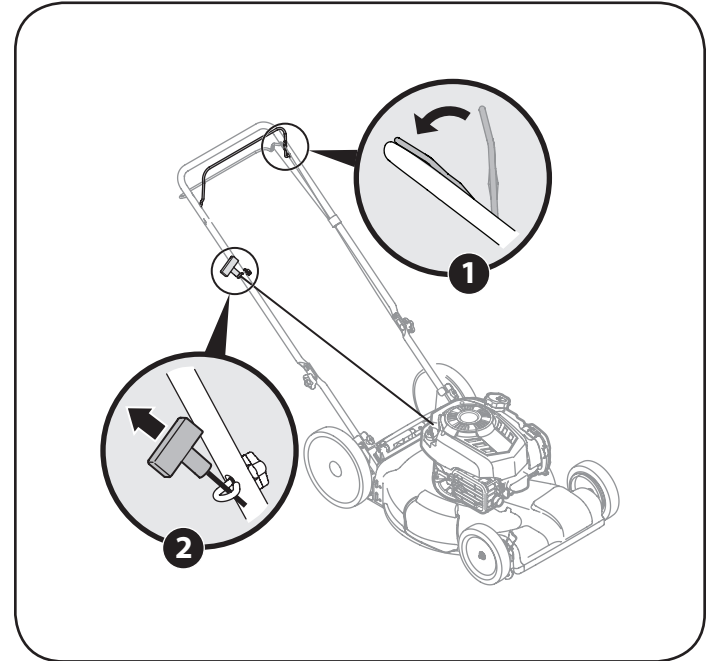

Figure 13
2. Holding these two handles together firmly, grasp recoil starter handle and pull rope slowly until resistance is felt, then pull with a rapid, continuous, full arm stroke. See Figure 13. Keeping a firm grip on the starter cord handle, let the rope rewind slowly. Repeat until engine cranks. Let the rope rewind each time slowly.